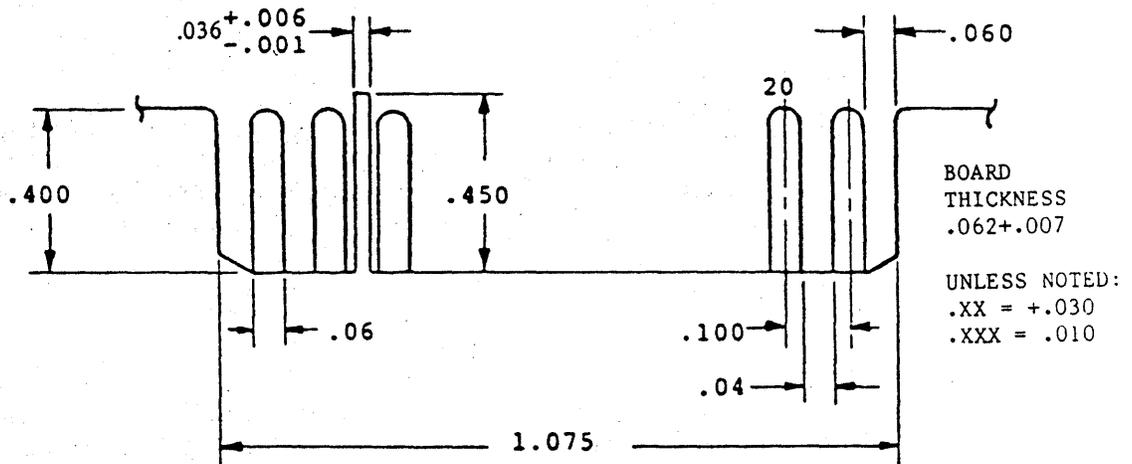

Figure 6-3. J2 Connector
6.2.2 The J2/P2 Connector: Data Signals. Connection with J2 is through a 20-pin edge connector. The dimensions for the connector are shown in Figure 6-3. The pins are numbered 1 through 20 with the even pins located on the component side of the PCB. The recommended mating connector for P2 is AMP ribbon connector P/N 88373-6, or Molex P/N 15-35-1201. A key slot is placed between pins 4 and 6.